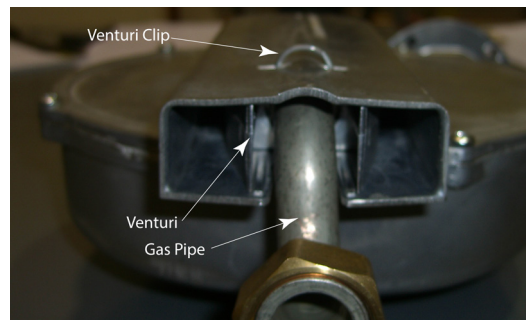

Fig. 4: Venturi assembly installation
2. Insert the venturi and gas pipe into the blower housing in the proper orientation, see Fig. 4. Ensure the venturi and gas pipe are properly seated.